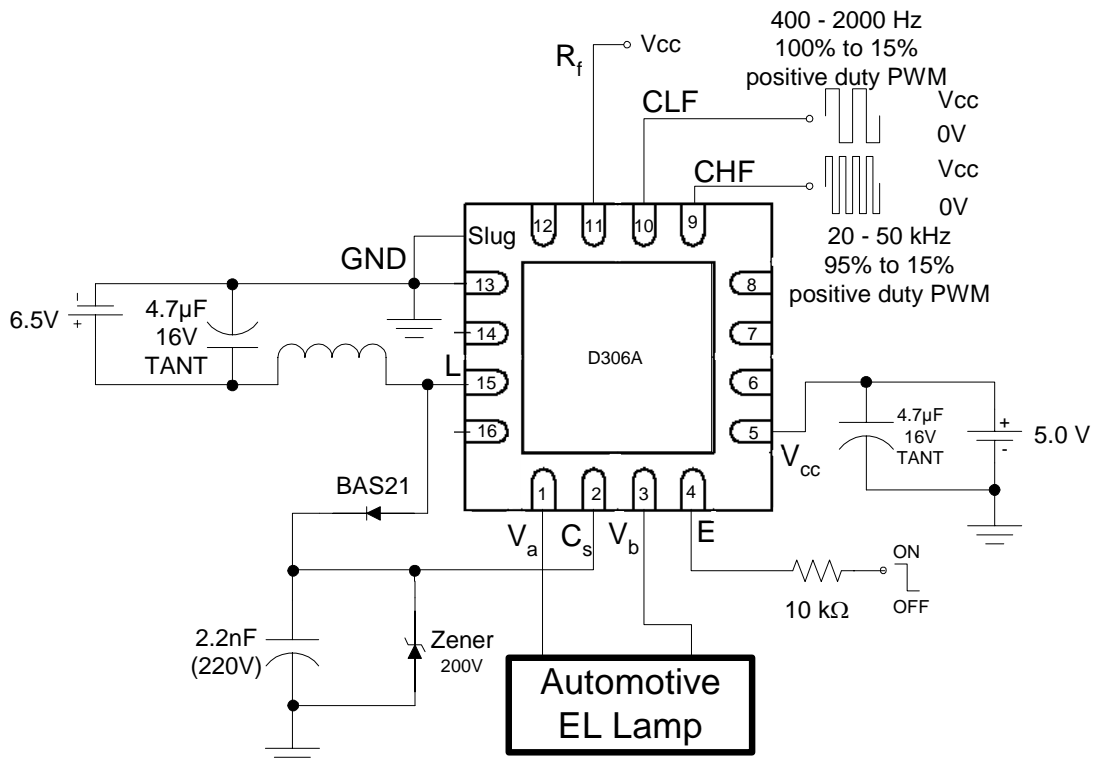

Figure 4. Example of D306A with PWM inputs
External clock signals may be used to control the D306A IC driver oscillator frequencies instead of adding external passive components. When clocking, signals provide both the inductor charging (HF) and lamp output (LF) oscillator frequencies to drive the D306A integrated circuit, the CLF, CHF, Rf, and CRf components are no longer required. A sample configuration demonstrating this cost-saving option is shown below in Figure 4.